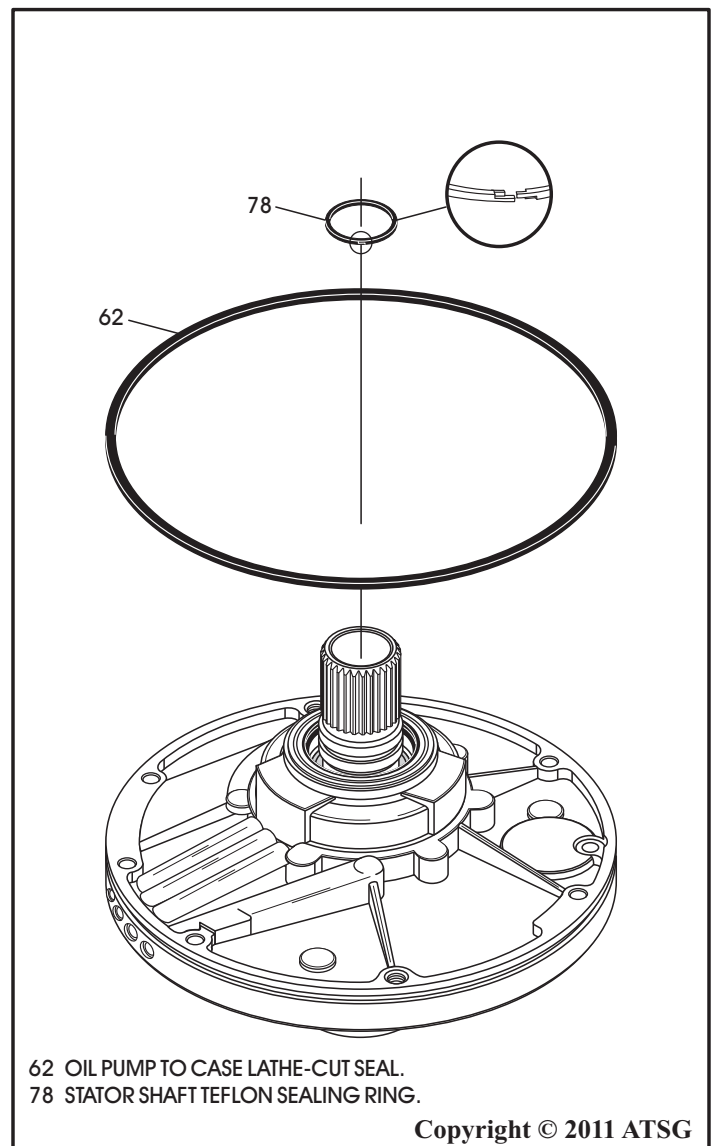

Figure 110
20. Install new oil pump to case lathe-cut seal into oil pump groove, as shown in Figure 110, and ensure it is not twisted in groove.
21. Install new step-cut Teflon® seal in the stator shaft groove, as shown in Figure 110.